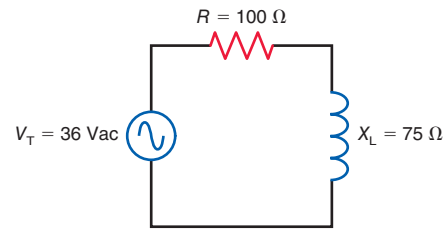

Figure 20-15
- 20.9** In Fig. 20-15, solve for Z_T , I , V_L , V_R , and θ_Z .
- 20.10** Draw the impedance triangle for the circuit in Fig. 20-15. (Use R as the reference phasor.)